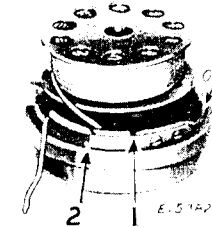
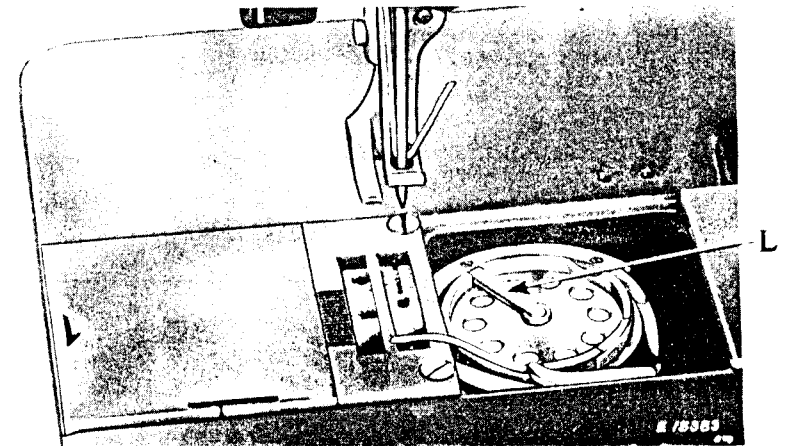

Fig. 10. Direction of Thread on Bobbin
Fig. 11. Bobbin Case Threaded
Apply a few drops of oil four times daily to the felt pad in the side wall of the bobbin case as illustrated in Fig. 10.
Fig. 10, and place it on the center stud of the bobbin case, then push down the latch (L, Fig. 11). Draw the thread into the slot (1, Fig. 10), under the tension spring and into slot (2) as shown in Figs. 10 and 11, leaving a loose end of thread about two inches long above the slide. When closing the slide plate, leave just enough space for the thread to pass through.